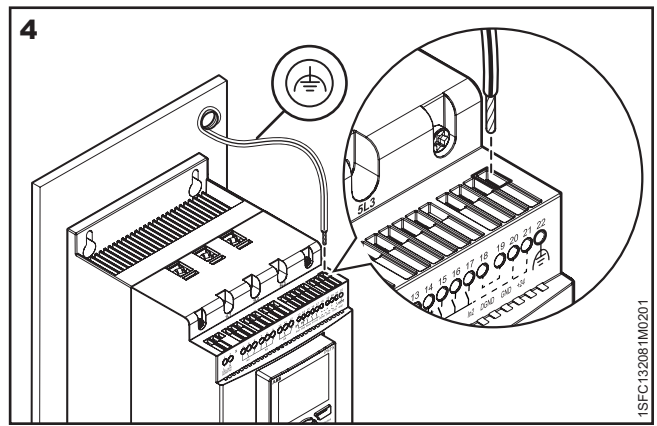

Figure 4: Functional earth, terminal 22
5. Connect the functional earth (terminal 22), to an earthing point close to the softstarter, see **Figure 4**.